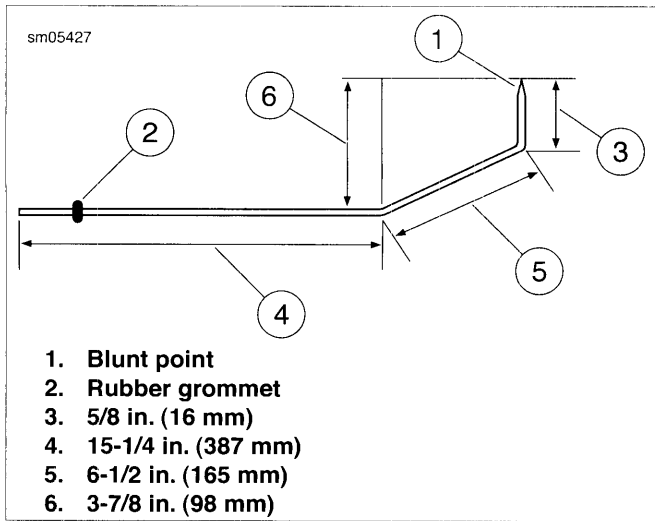

Figure 1-62. Wheel Alignment Tool: XR Models
3. **For XR Models:** See Figure 1-62. Fabricate an alignment tool using a piece of 1/8-in. (3.175 mm) diameter aluminum welding rod 22.375 in. (568 mm) long. Grind one end down to a blunt point. Use pliers to bend rod as shown. Place a snug-fitting rubber grommet (2) on rod to act as a slide measurement indicator.